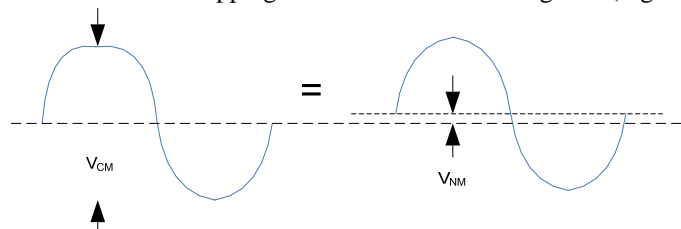

Figure 3
- a. Connect the voltage source, reference divider and null meter as in Figure 3 including a 2 μ F filter block at the null meter input terminals
The basic concepts outlined above and in the diagrams shown in Figures 3 and 4 are applicable to both Reference Divider and Ratio Divider setups. These include:
- Distortion and/or clipping of AC common mode signals (Figure 3)